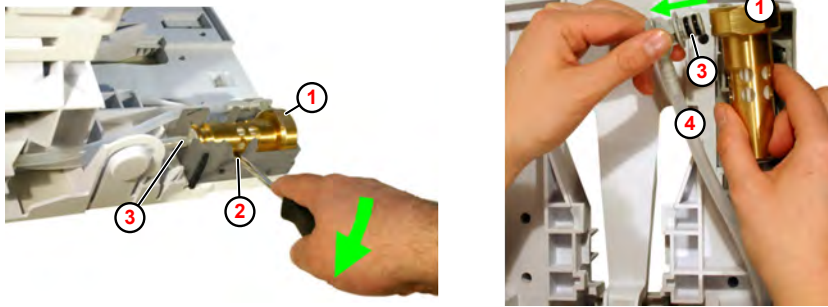

Fig. 19: Removing/installing the pipe interrupter
1. Use a screwdriver to pry the pipe interrupter (Fig. 19 , ①) out of the holder (side opening) ② .
2. Remove the connecting nipple ③ from the pipe interrupter ① .